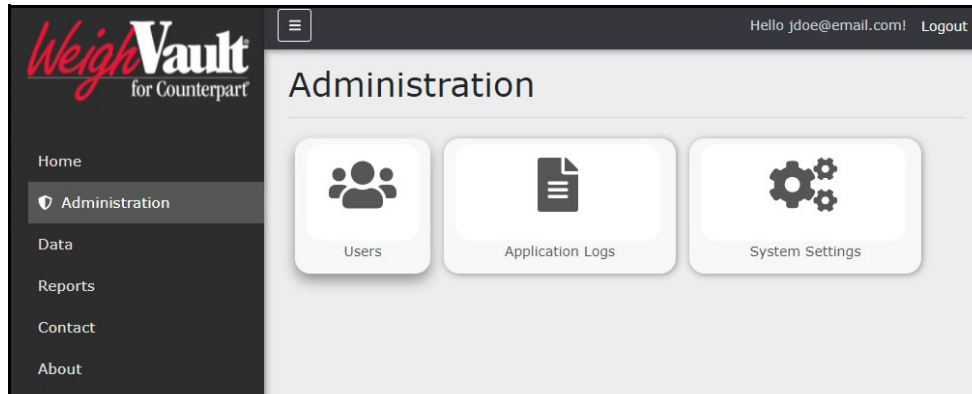

Figure 4-3. Administration Page
3. The Administration page displays (see Figure 4-3 on page 30).